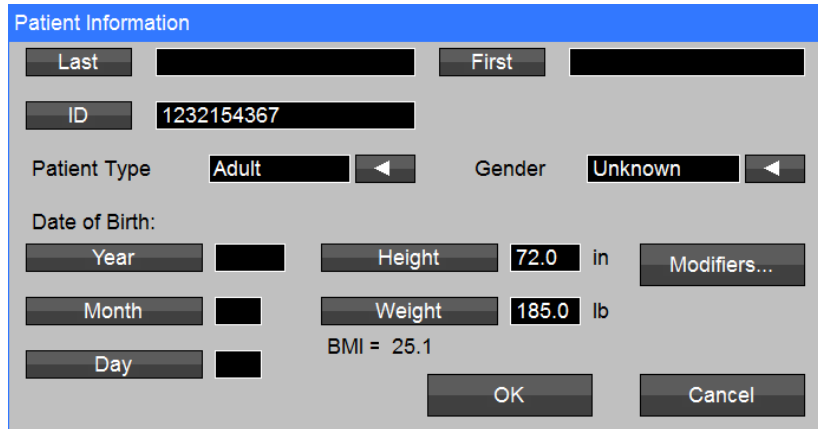

Figure 42: Patient Information Screen
- 2) Use the drop down menus, and the Up/Down arrows to enter patient specific information (refer to Figure 42).
- Select Modifiers. Refer to Figure 42.